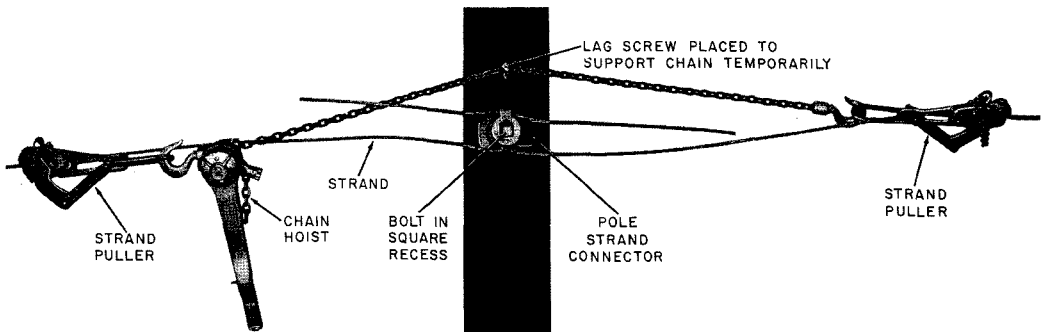

Fig. 6—Tensioning Strand for B Guy Clamps
3.04 A 3/4-inch, type A cable suspension bolt should be used for mounting the pole strand connector when splicing 16M or larger strand or when splicing 10M strand where there is a downward change in grade of 10 percent or more. An E curved washer should be placed under the nut of the 3/4-inch bolt. Figure 6 and the illustrations which follow show pole strand connectors with the bolt heads properly installed in the square recesses in the connectors.
mounted, using a chain hoist of the correct size as indicated in Section 627-240-211 (Fig. 6). The two strand ends should be pulled against each other *and not against the pole* to avoid placing unbalanced loads on the pole.